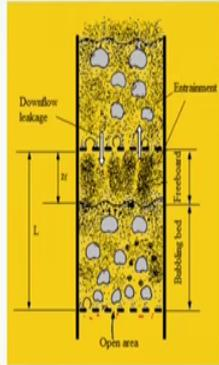

Fig. 4. Two stages of a multistage fluidized bed showing the flow of solids across a baffle plate
- Consider two stages of a multistage fluidized bed, as shown in Fig. 4.
So, you have to optimize that design to control this solids movements around the distributor there and considered two stages of multi stage the fluidized bed as shown here in the figure 4. See here in this case this is your perforated distributor these through plate, these gases coming up and also you will see there will be a solid movement to this hole and the some through the holes also some solids also will be coming downward there.